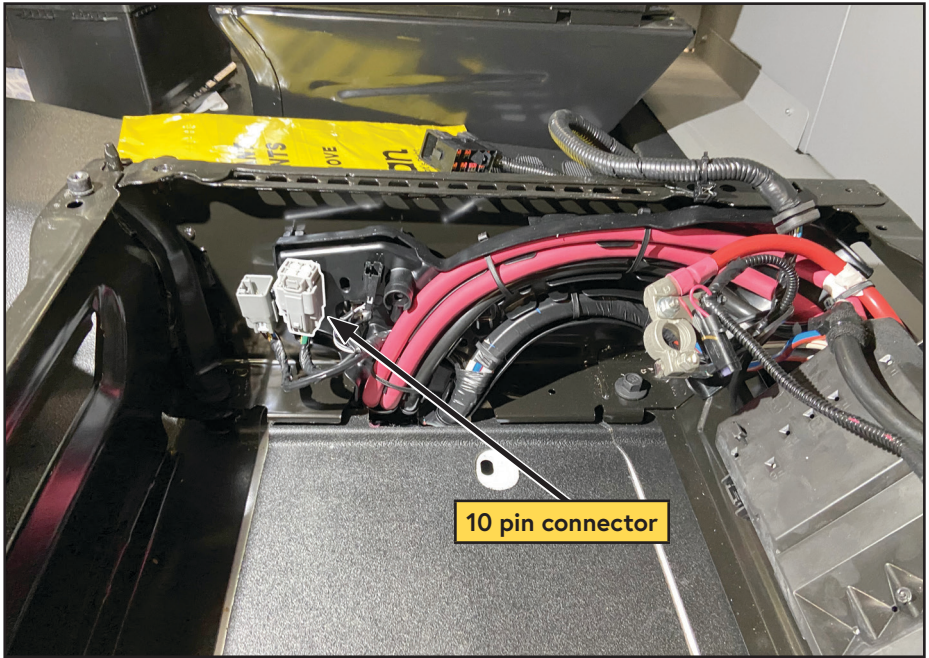

Figure 54 — Connect key switch power
- ***If pin 6 is already populated:** Splice the violet wire ("KEY SW PWR") into the existing wire populating pin 6 (Figure 54).